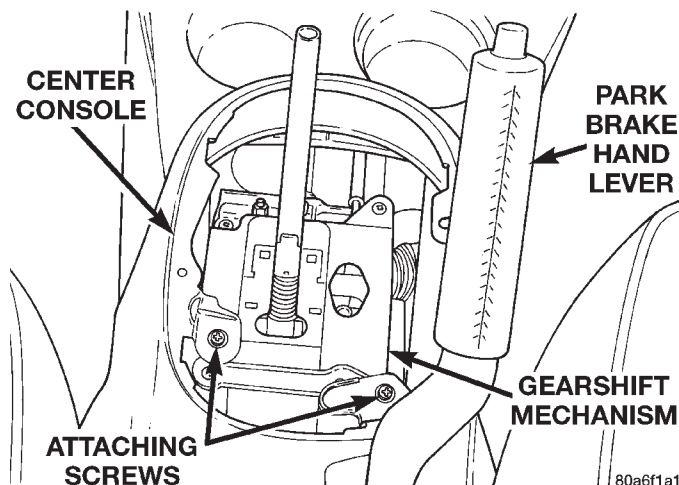
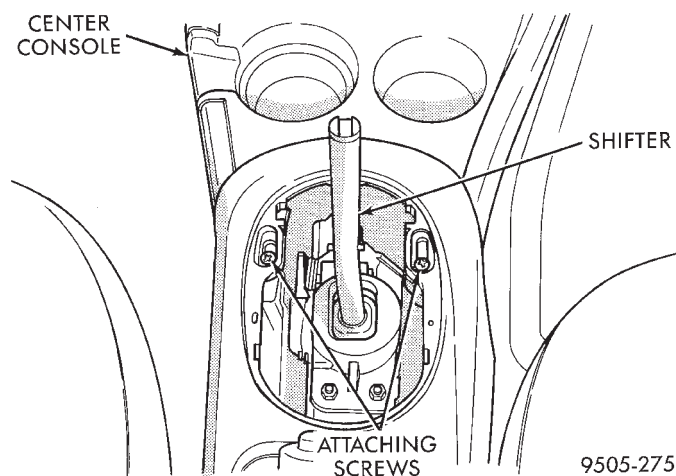

Fig. 188 Center Console Front Attaching Screws(Automatic)
Fig. 189 Center Console Front Attaching Screws(Manual)
(4) Remove the 2 screws attaching the front of the center console to the gear selector or shifter (Fig. 188) or (Fig. 189).
(14) Check the rear wheels of the vehicle, they should rotate freely without dragging.
(15) After the park brake cable tension has been properly adjusted, check for free play in park brake lever. Park brake hand lever should feel firm at all clicks, with a maximum of 21 clicks of lever travel possible.
(16) Install the 2 screws attaching the front of the center console (Fig. 188) or (Fig. 189).